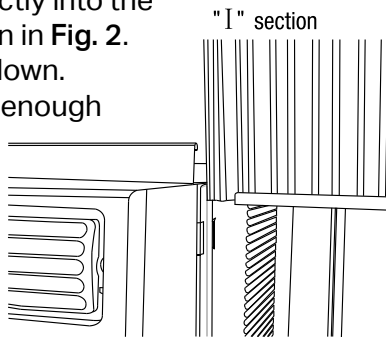

Fig. 2
C. Slide the free end "I" section of the panel directly into the cabinet as shown in Fig. 2.